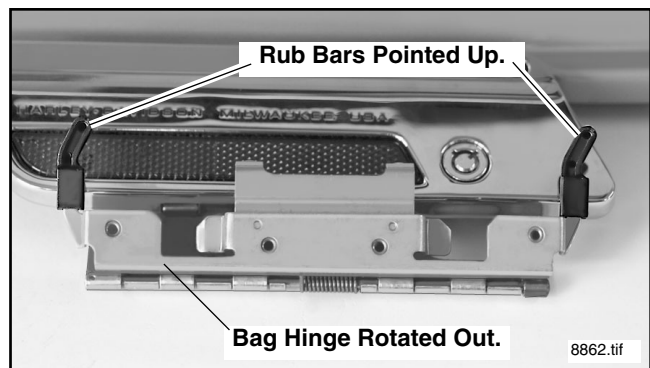

Figure 2. Left-Hand Lid Right Side Up, Latch on Near Side
4. See Figure 2. Position the lid right side up with the latch closest to you. Raise the latch slightly and rotate the bag hinge out so that it is in front of the latch with the two plastic rub bars pointed upward.
3. See Figure 2. Reposition the lid so that it is right side up with the latch closest to you. As before, raise the latch slightly and rotate the bag hinge out so that it is in front of the latch with the two plastic rub bars pointed upward.